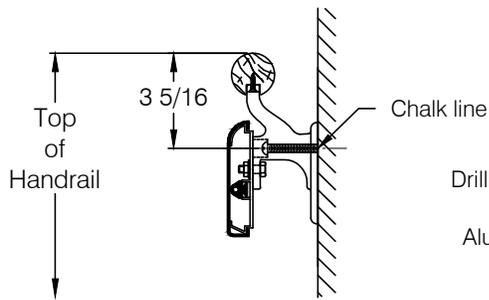

fig 1
- Step 1:** Determine top of handrail height and snap a chalk line 3 5/16" below for centerline of mounting hardware, see **fig 1**.